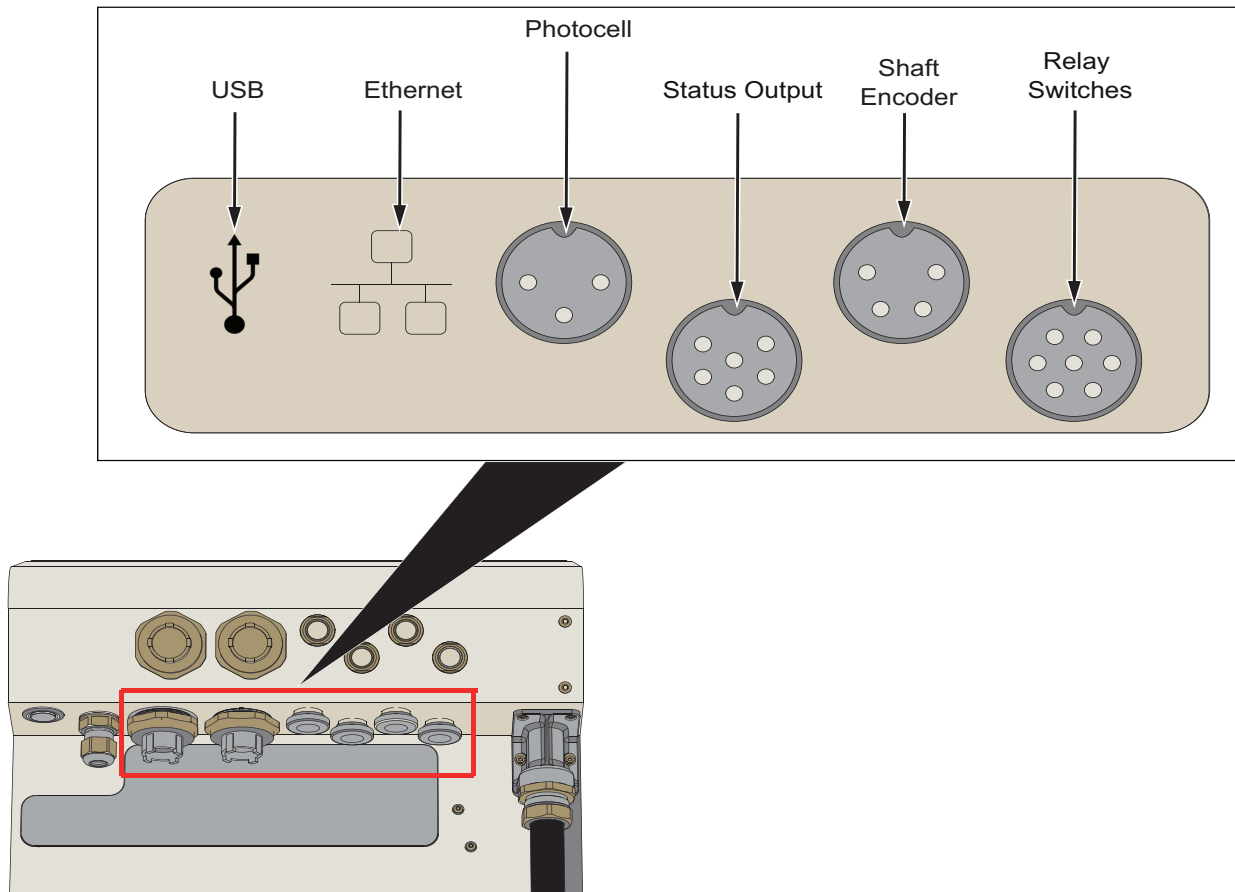

Figure 3-28: Standard IO
The printer comes with Standard IO providing external connections as shown in Figure 3-28.
**Note:** If the External USB is not included on the Standard IO, the USB Port is located within the ink compartment (Figure 3-28).